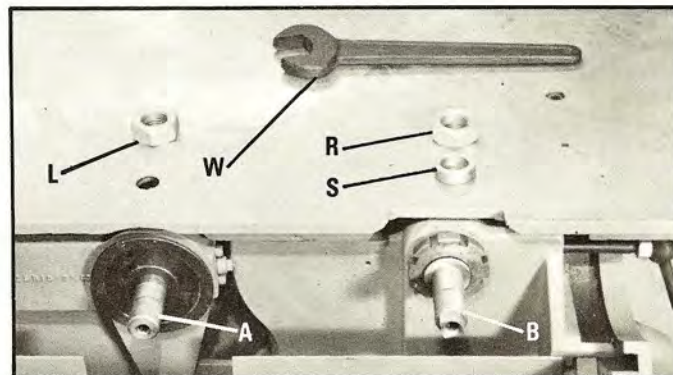

Fig. 29
Arbor extensions (A) and (B) Fig. 29, supplied with the saw, can be threaded into the existing arbor shafts to accommodate dado cutting.
Arbor nut (L) Fig. 29, has a left hand thread. Arbor nut (R) has a right hand thread. Wrench (W) Fig. 29, is used to tighten both arbor extension nuts.
Spacer (S) Fig. 29, can be used to space out two scoring blades for a dado cutting operation.